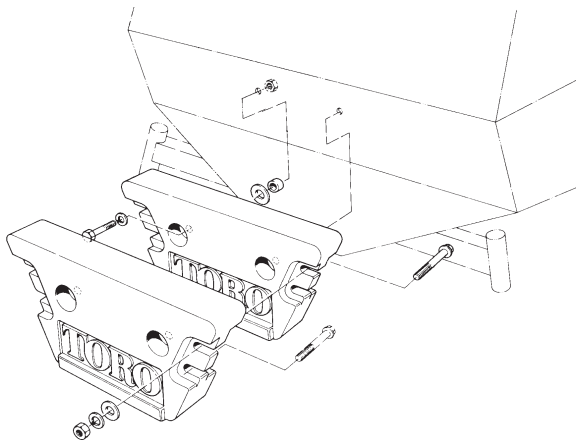

Figure 14
1. Mounts weights to rear of traction unit with 2 capscrews (1/2 x 2-3/4 in.), lock washers, flat washers, and spacers (Fig. 14). Position the flat washer and spacer between weight and chassis with flat washer against weight.